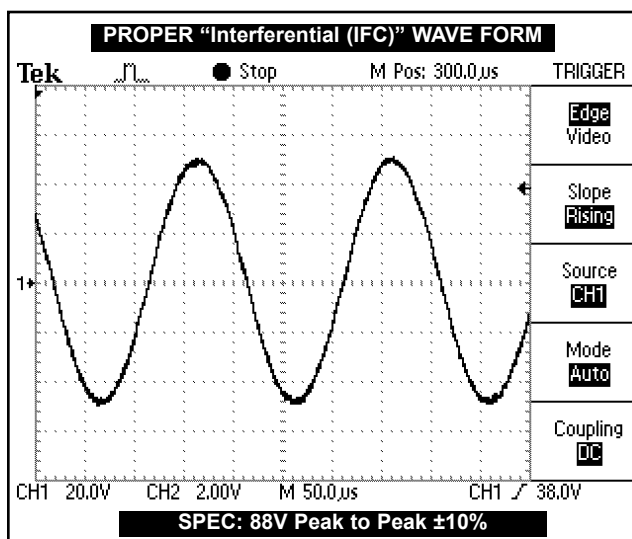

FIGURE 5.30
8. Compare wave form on scope to Figure 5.30.
1. Wave form on scope the same as Figures 5.30